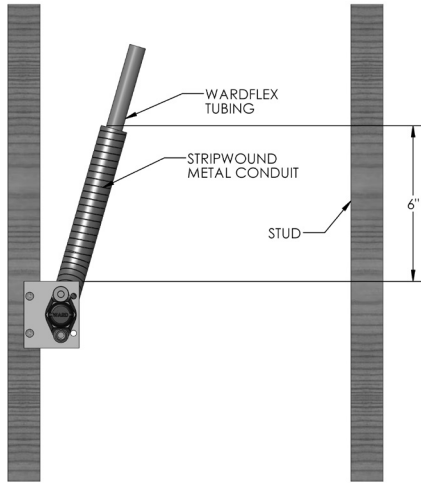

FIGURE 4.12
- B. Stripwound conduit shall also be used to shield tubing from puncture threats when WARDFlex is installed in a concealed location where it cannot be displaced a minimum 3" from a potential puncture threat or the distance between supports is less than 24 inches. See Figure 4.12.